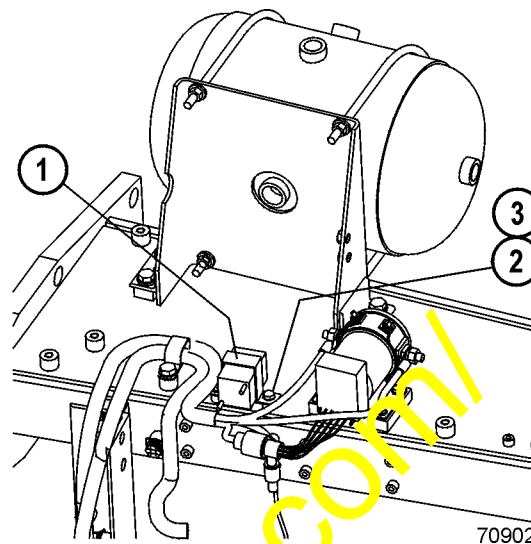

FIGURE 3. NEW STARTER SAFETY RELAY
4. Mount the new relay (1, Figure 3) with capscrews (2) and washers (3).
8. Make a new ground wire about 6 inches long, using 16 gauge wire and connect one end to connector (11), pin number 3. Install a ring terminal on the other end of the ground wire and connect to capscrew (2, Figure 3).